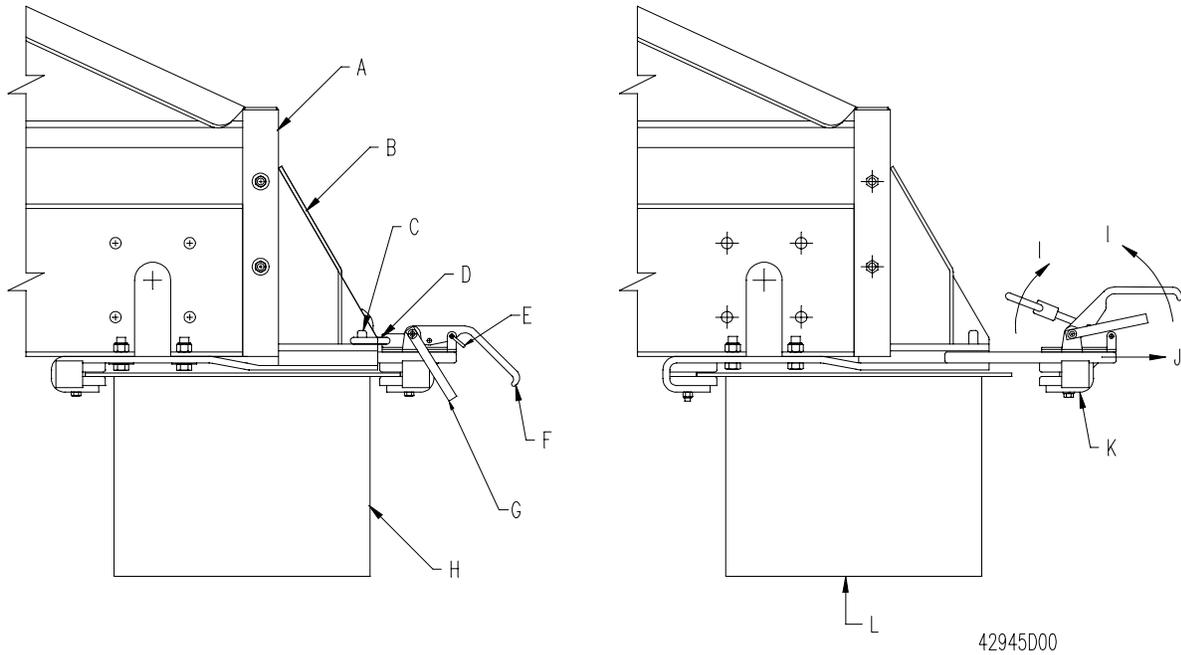

Figure 7: Installing an option / removing an option
3. Lift the safety latch, then lift the option attachment clamp handles, and release the lock rings from the lock pins (Figure 7).